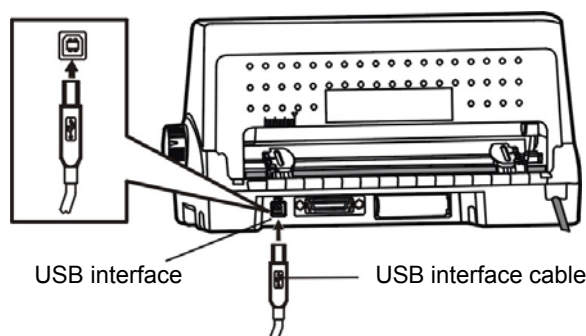

Figure 2-11 Connecting to the USB interface
Your printer can be configured with a parallel interface, a USB interface, a serial interface or an Ethernet interface. (According to specific interface standards) Connect your computer to the printer with respective interface cable. (As figure 2-11, 2-12, 2-13 and 2-14 shown)
2. Plug the USB interface cable B end (square shape) into the printer's USB interface. (As shown in figure 2-11)